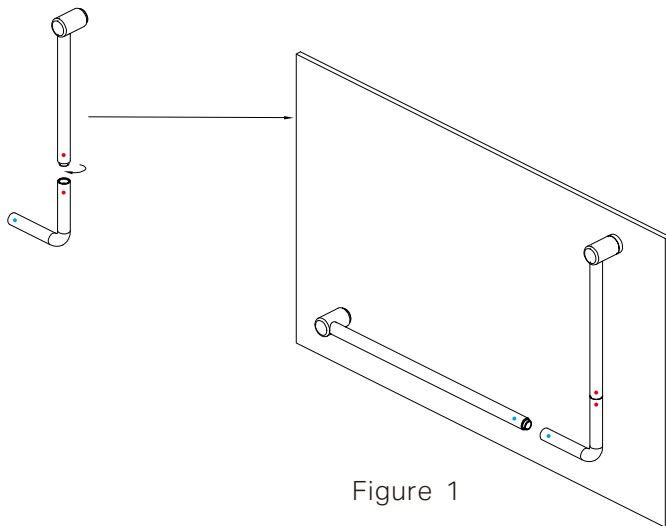

Figure 1
6. Connect the Vertical Grab Bar (with the red sticker) to the Connecting Elbow with the red sticker on one end as shown in the figure 1. This is the correct connection. If the Vertical Grab Bar (with the red sticker) is connected to the Connecting Elbow (with the blue sticker) on one end, the situation shown in the figure 2 which is an incorrect connection and should be avoided.